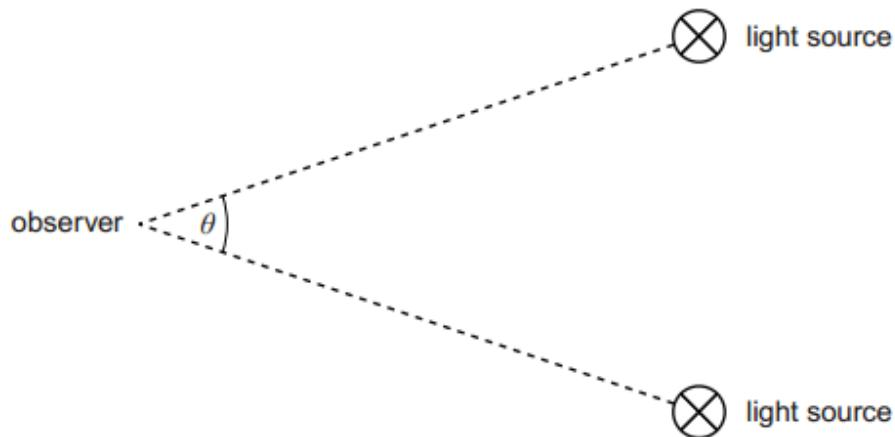

Fig 1.1 (not to scale)
- 1 Two identical light sources are viewed from a distance, as shown in Fig 1.1. When the angle θ between the light sources is large, they are seen as separate.